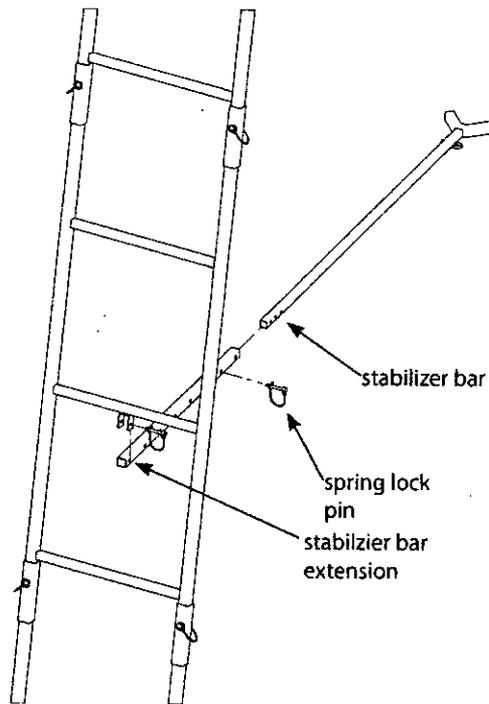

Figure 14
19.a. Attach the stabilizer bar extension tube (1ML23) to the second ladder section mounting bracket using (1) provided spring lock pin. SEE FIGURE 14.
b. Slide the stabilizer bar (L17) into the extension tube and attach the two pieces together using (1) provided spring lock pin. Spring lock pin must go through both the extension tube and stabilizer bar at appropriate hole to achieve desired distance from tree. Adjustment in length may be needed when ladder is uprighted later in instructions. SEE FIGURE 14.